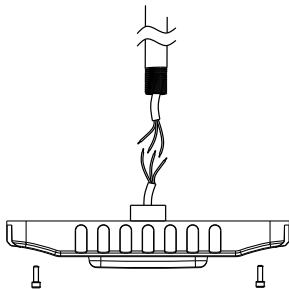

Figure 4
1. Connect the wiring to the local power supply in the 3/4" NPT Stem. (Figure 4)